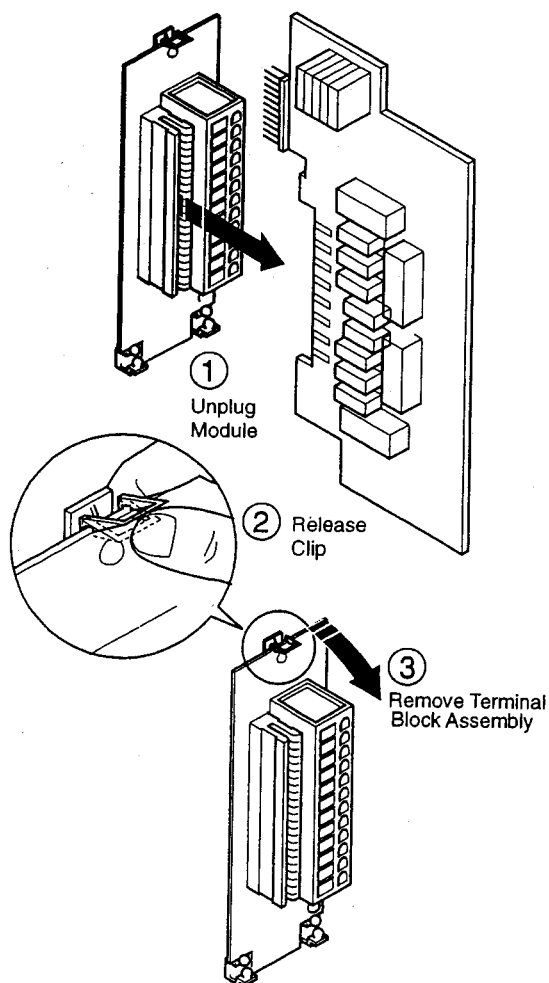

Fig. 4.1 Removing Terminal Block Assembly
- To comply with Underwriter Laboratories (UL) certification, use flexible conduit for cable routing (signal and power).
- The terminal blocks can be removed from the main p.c.b. when making connections. Before removing any module note its position – see Fig. 4.1.